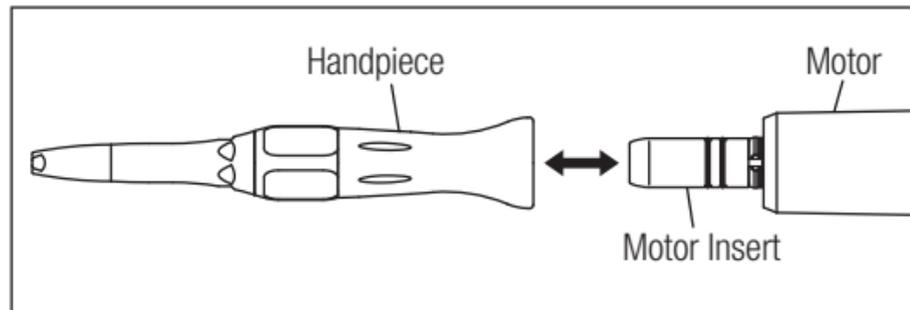

Fig. 1
- 1) Insert the handpiece until it reaches the end of the Motor Insert. (Fig. 1)